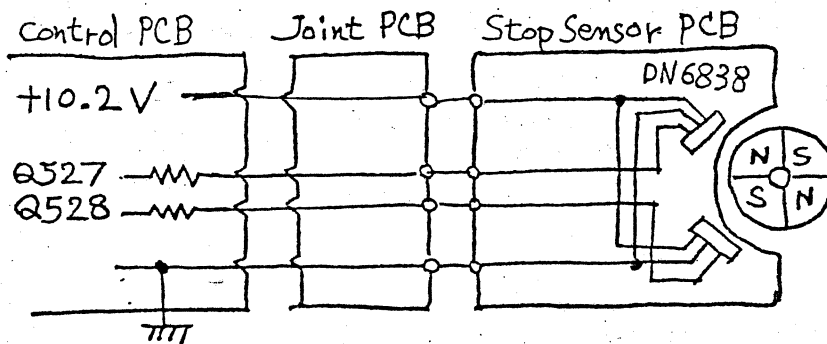
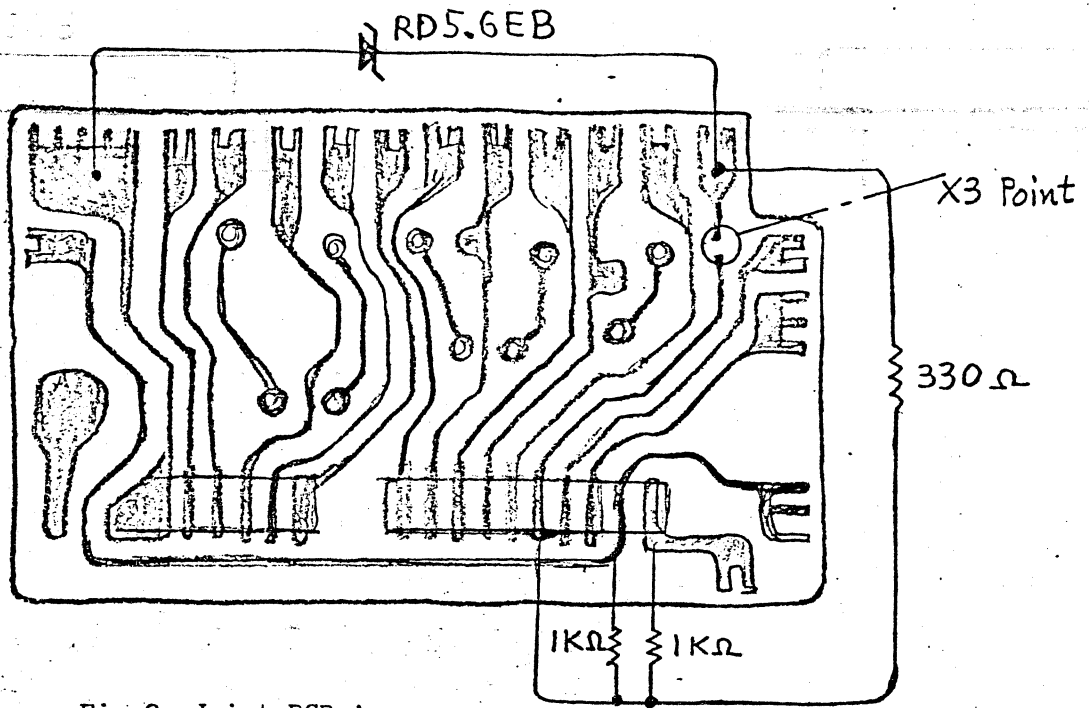
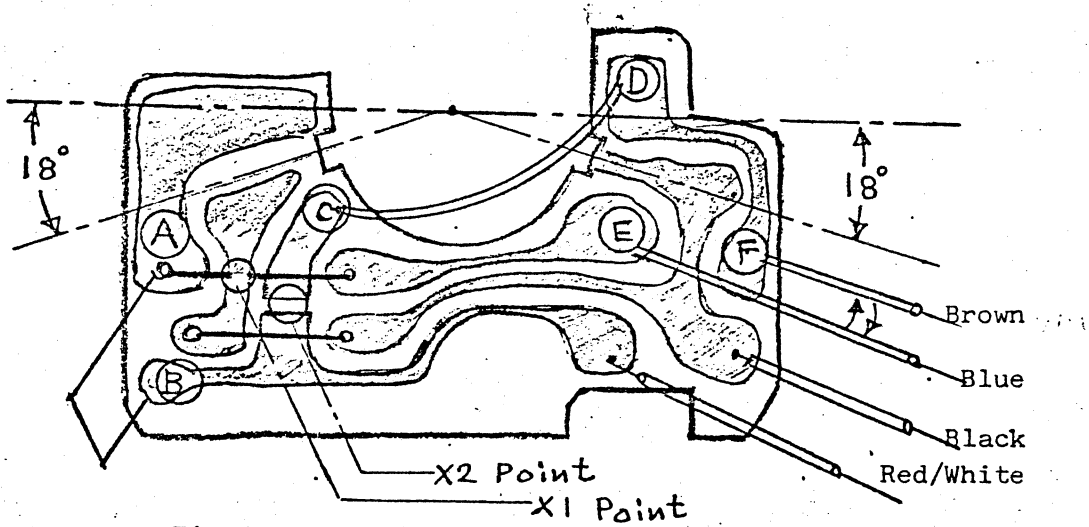

Fig 1
Fig 3 Joint PCB Assy
Fig 4
To improve the reliability of A-770 Cassette auto stop function, the circuits on PCB Assy Stop Sensor and Joint PCB Assy have been changed on the products serial numbered 21531 and after. In Fig 1 and Fig 2 are the diagrams of these former and new circuits. The former circuit can be changed into new circuit by making several modifications on the two PCB Assys as shown in Fig 3 and Fig 4.
- 1.6 Remove old Hole IC DN6838 (Parts No 52287001) from PCB, and mount new Hole IC TL170C (Parts No 52287001). On mounting this IC, care should be taken to keep the 18° angle as shown in Fig 4, as well as to face the flat side of IC against magnet rotor.
- 2.2 Connect three resistors and one zener diode RD5.6EB on the foil side of PCB as shown in Fig 3.